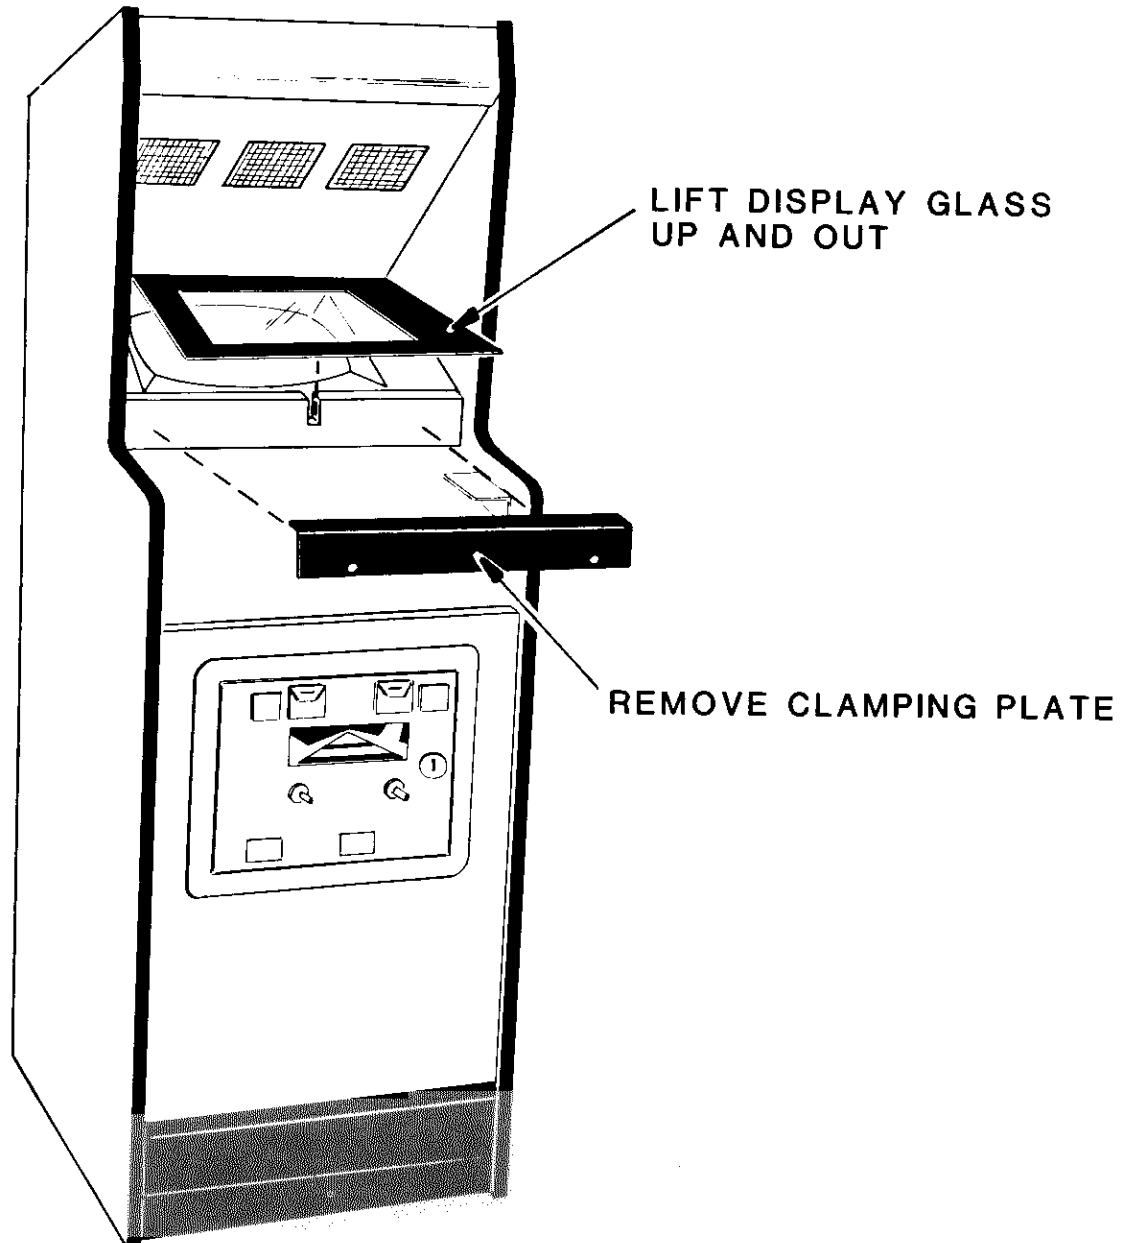

FIG.17
- e. Remove the screws which secure the T.V. bezel assembly, see Figure 17, and lift it out.